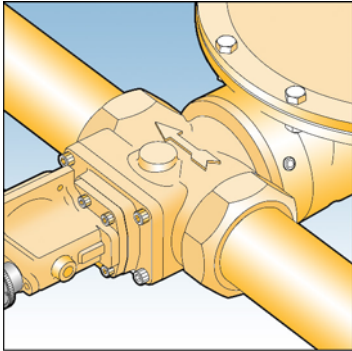

Fig. 1
6. The direction of gas flow must be the same as the arrows on the regulator body. See Fig. 1.